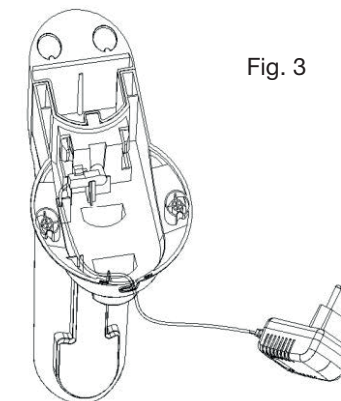

Fig. 3
3. Pass the power cord through the notches under the base, then pass the cord through the cable guide as shown in **Figure 3**.